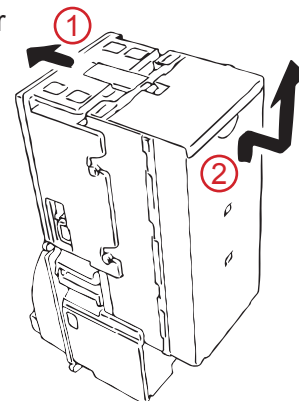

Figure 76
a. You can remove the BNA and empty the stacker in the following manner (see figures 76 and 77):